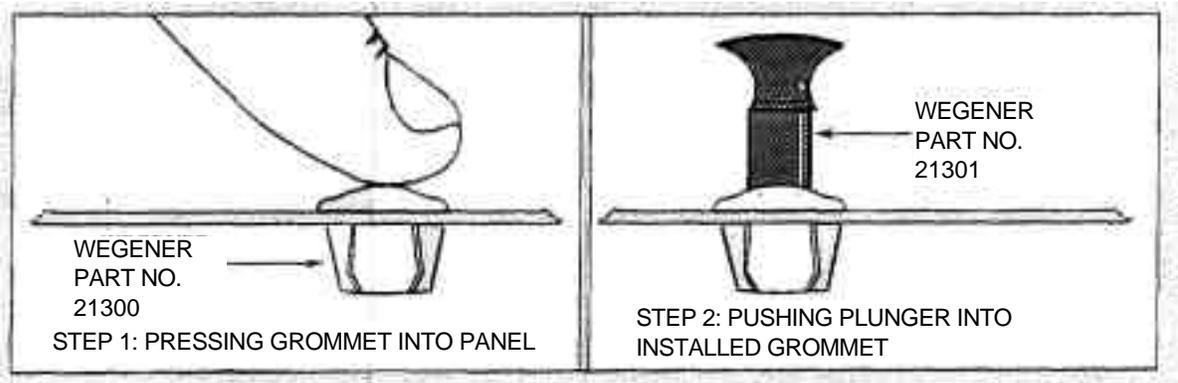

FIGURE 2.1 INSTALLING FRONT PANEL
2.2 FRONT PANEL ASSEMBLY (see Figure 2.1) - The mainframe front panel is packaged separately from the equipment. After the mainframe is installed and interconnected for its service, the front panel is prepared for installation. A separate package of panel fasteners is provided. Carefully follow the installation procedure in sequence.
D. Observe step 1 in figure 2.1 and press a grommet into a front panel hole. Insertion must be from the silkscreened side through to the blank side. Fill all front panel holes with grommets.
E. Observe step 2 in figure 2.1 and press a plunger into each grommet. Each fastener is now inseparable.